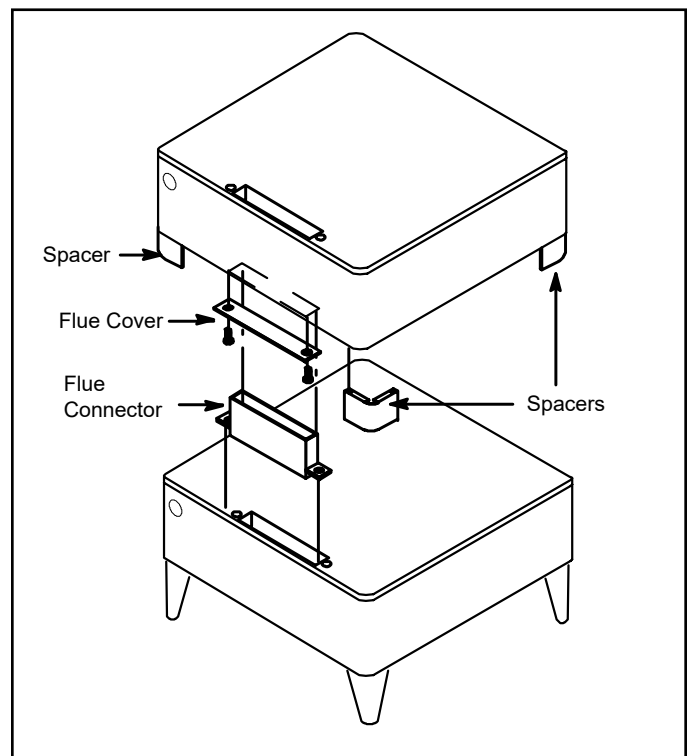

Figure 5
3. Fasten the spacers to the bottom of the upper oven. See Figure 5.